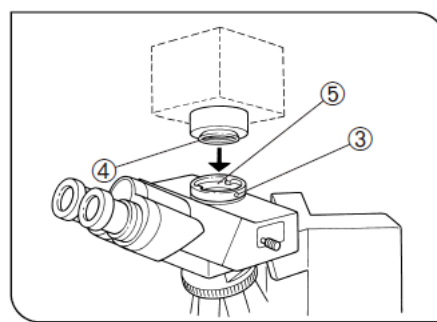

Fig. 2
2. Using the Allen screwdriver provided with the microscope, loosen the straight photo tube clamping screw 3, then fit the mount dovetail 4 of the C-mount adapter into the straight photo tube mount 5 of the trinocular tube. (Fig. 2) **(#For convenient parfocality adjustment, set the C-mount adapter so that the LOCK and FOCUS screws face sideways.)**
3. Tighten the clamping screw 3 firmly. (Fig. 2)